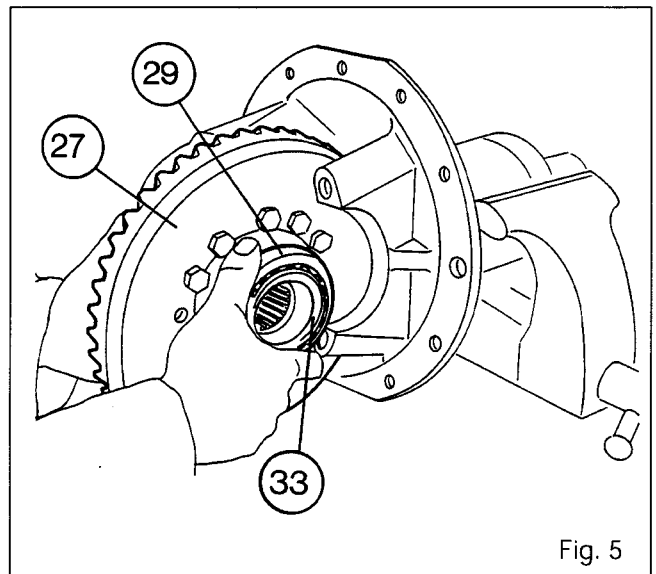

Fig. 5
15. Remove the complete differential assembly with the bearing cones (33) and cups (29) (Fig. 5). Separate the cups from the cones. Remove the shim or shims (22).